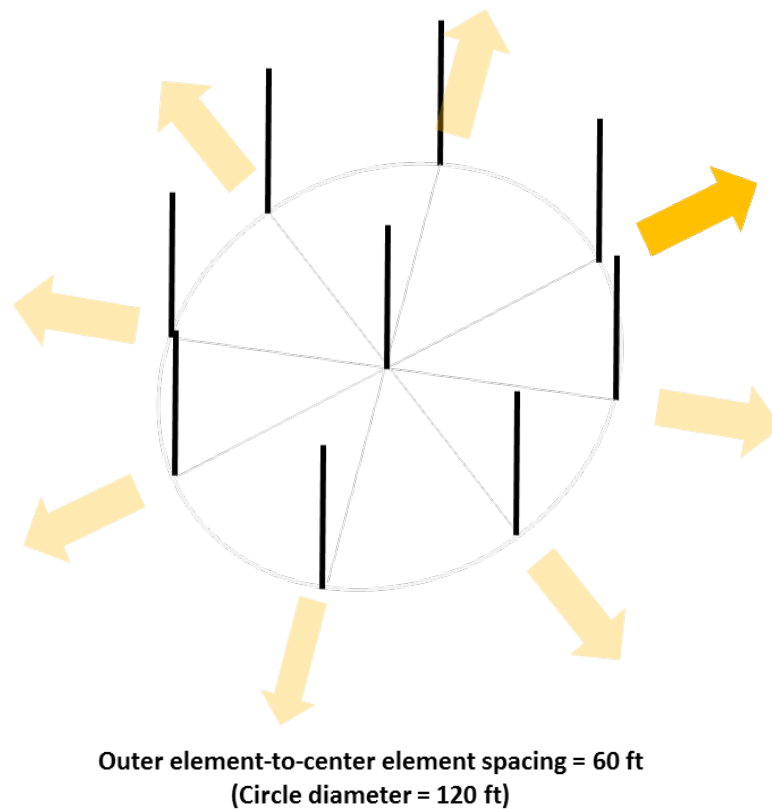

Figure 3. 9-element circular configuration
3. 9-element circle: Four 3-element inline arrays, with a common center element, laid out in a circular configuration as shown in Figure 3. Switching circuitry selects which inline array is activated. The array provides eight directions of coverage, every 45 degrees in azimuth. The diameter of the circle is 120 feet.